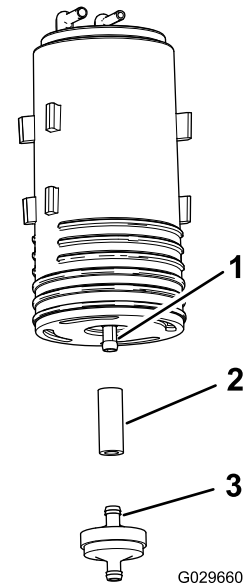

Figure 47
4. Remove the carbon-canister filter and the short section of hose from the lower fitting of the old carbon canister (Figure 47).
5. Install the hose onto the lower fitting of the new carbon canister (Figure 47).
6. Insert the fitting of a new carbon-canister filter into the hose (Figure 47).